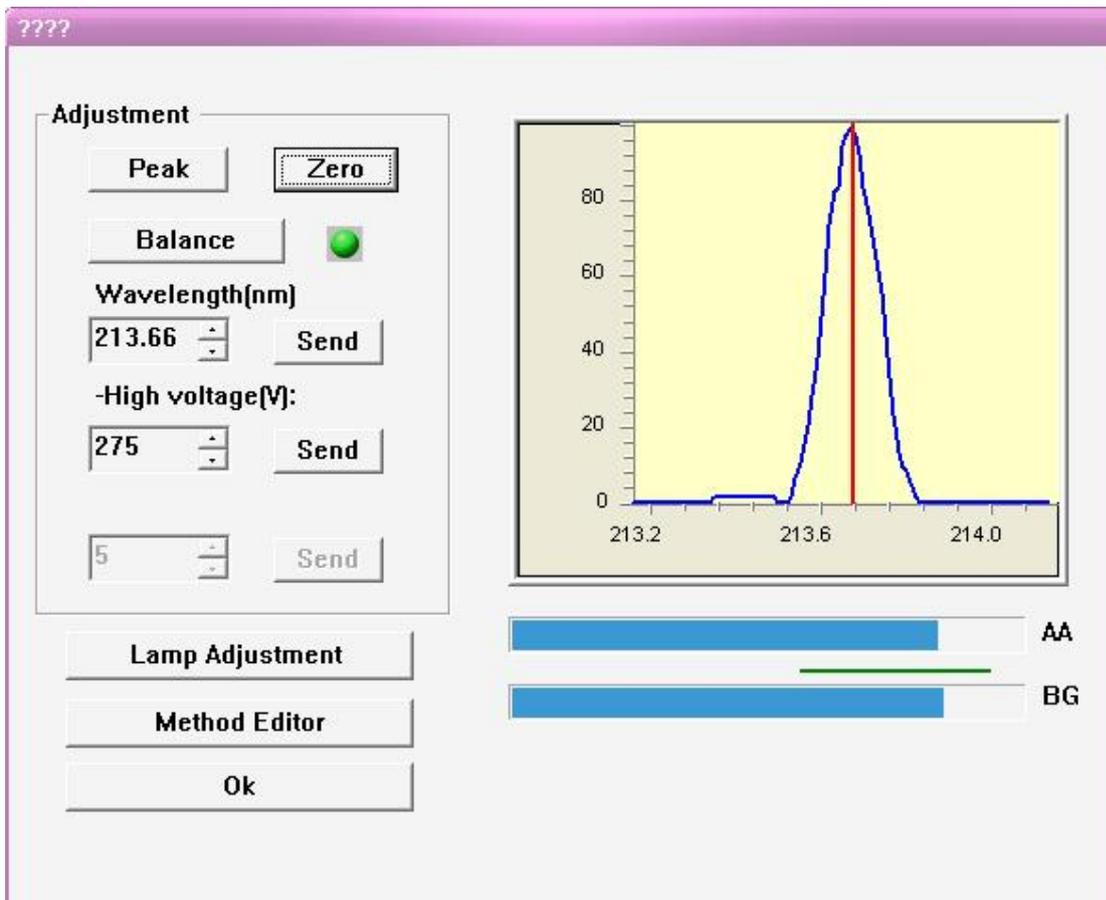

Figure 6-6
7. Press **Balance** button, display the figure 6-6